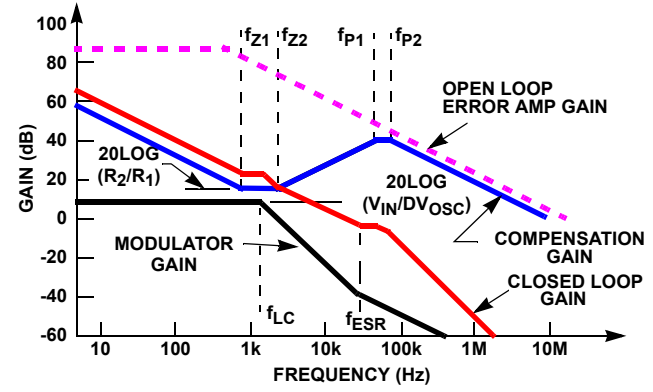

FIGURE 49. ASYMPTOTIC BODE PLOT OF CONVERTER GAIN
Figure 49 shows an asymptotic plot of the DC/DC converter's gain vs frequency. The actual modulator gain has a high gain peak due to the high Q factor of the output filter and is not shown in Figure 49. Using the guidelines provided should give a compensation gain similar to the curve plotted. The open-loop error amplifier gain bounds the compensation gain. Check the compensation gain at f_{P2} with the capabilities of the error amplifier. The closed-loop gain is constructed on the graph of Figure 49 by adding the modulator gain (in dB) to the compensation gain (in dB). This is equivalent to multiplying the modulator transfer function to the compensation transfer function and plotting the gain. The compensation gain uses external impedance networks Z_{FB} and Z_{IN} to provide a stable, high bandwidth (BW) overall loop. A stable control loop has a gain crossing with -20dB/decade slope and a phase margin greater than $+45^\circ$. Include worst case component variations when determining phase margin. A more detailed explanation of voltage mode control of a buck regulator can be found in Tech Brief TB417, entitled "Designing Stable Compensation Networks for Single Phase Voltage Mode Buck Regulators".